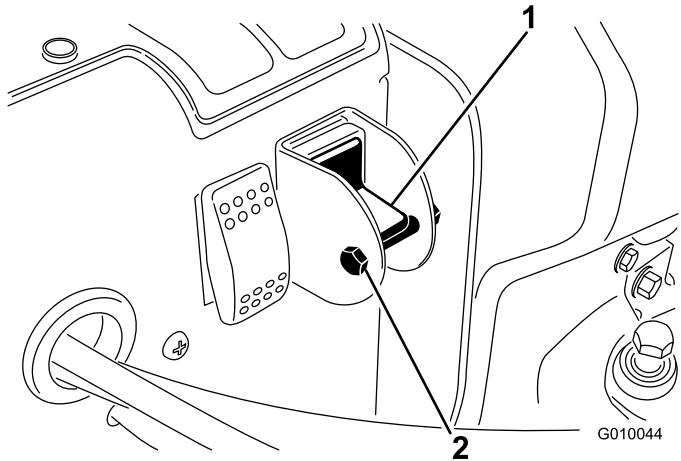

Figure 29
- Remove locking bolt and nut from selector switch (Figure 29).